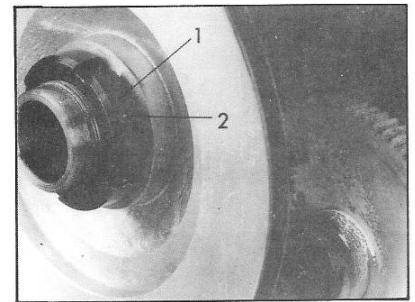

Fig 24
Loosen set screw (1, Fig 24) in the slotted nut (2) on the back of the spindle.